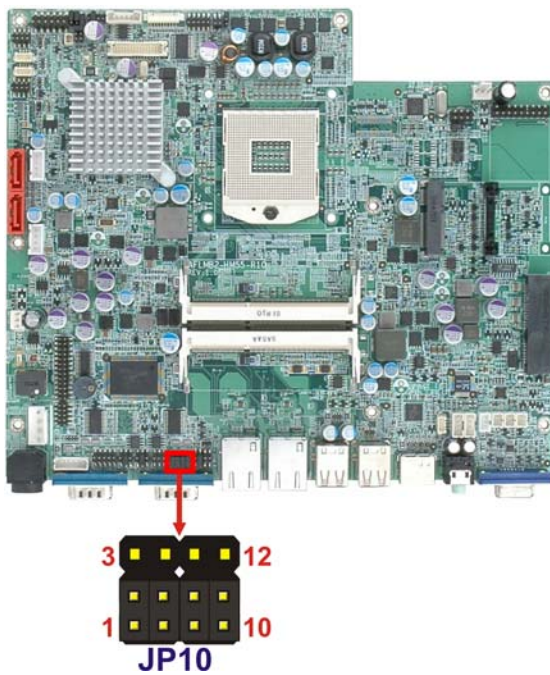

Figure 3-11: COM3 RS-232/422/485 Serial Port Select Jumper Location
- Jumper Location:** See **Figure 3-11**
The COM3 RS-232/422/485 Serial Port Select jumper location is shown in **Figure 3-11**.